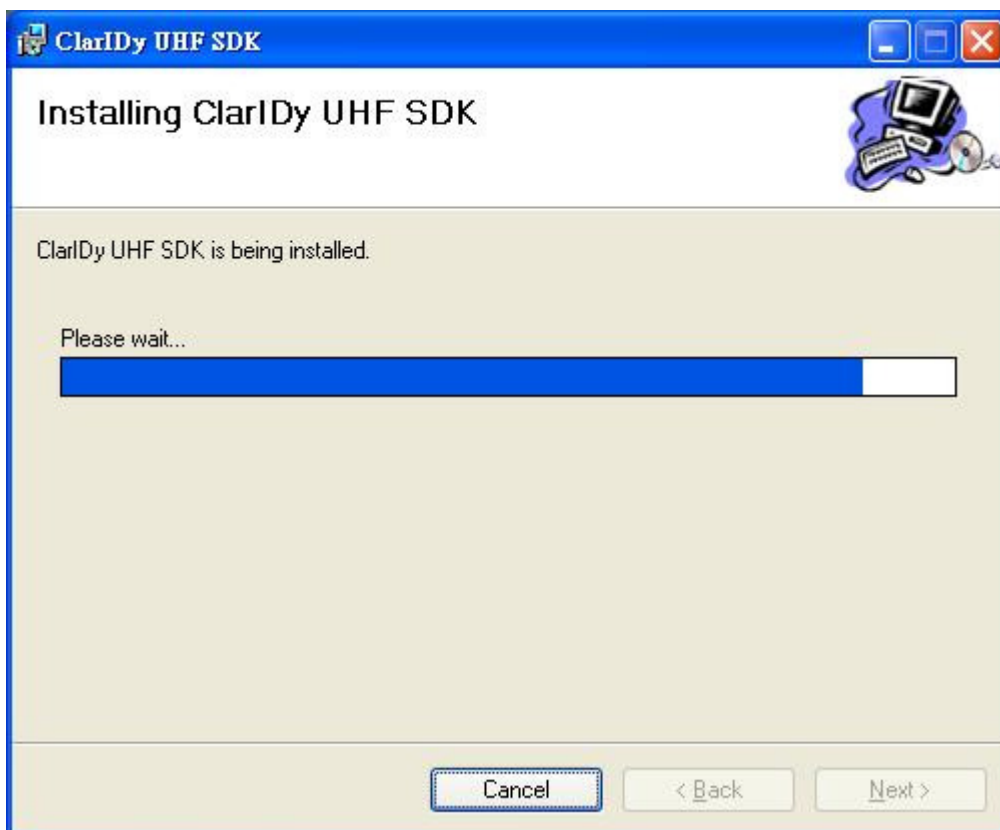

Figure 17
5. Wait for the installation, as figure 17.